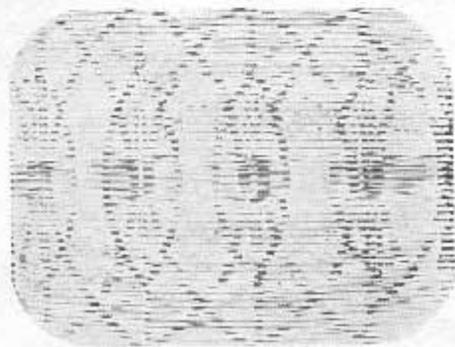

Figure 6—INCORRECT HORIZONTAL HOLD
Horizontal and Vertical Hold Controls.—The dual knob on the right of the row controls the picture stability. The inner section designated by a "H" is the Horizontal Hold Control and when being set should be turned slowly to the point at which the picture "locks in" horizontally. Figure 6 shows the effect of incorrect setting of the control.
6. If the picture is not steady, the "Hold" controls will require slight readjustment. If the picture is moving sideways the Horizontal Hold (inner "I" section of the knob) requires readjustment. If the picture is moving up or down or is off position, then the outer ring "O" of the knob, Vertical Hold Control, requires readjustment. See Figures 6 and 7.